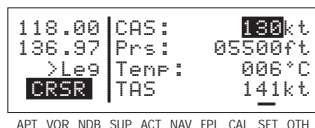

Figure 4-70
2. Enter the aircraft's calibrated airspeed by using the right inner knob (figure 4-70). If the calibrated airspeed isn't known, use the indicated airspeed. For most aircraft the difference between the calibrated airspeed and the indicated airspeed is small at cruise airspeeds.